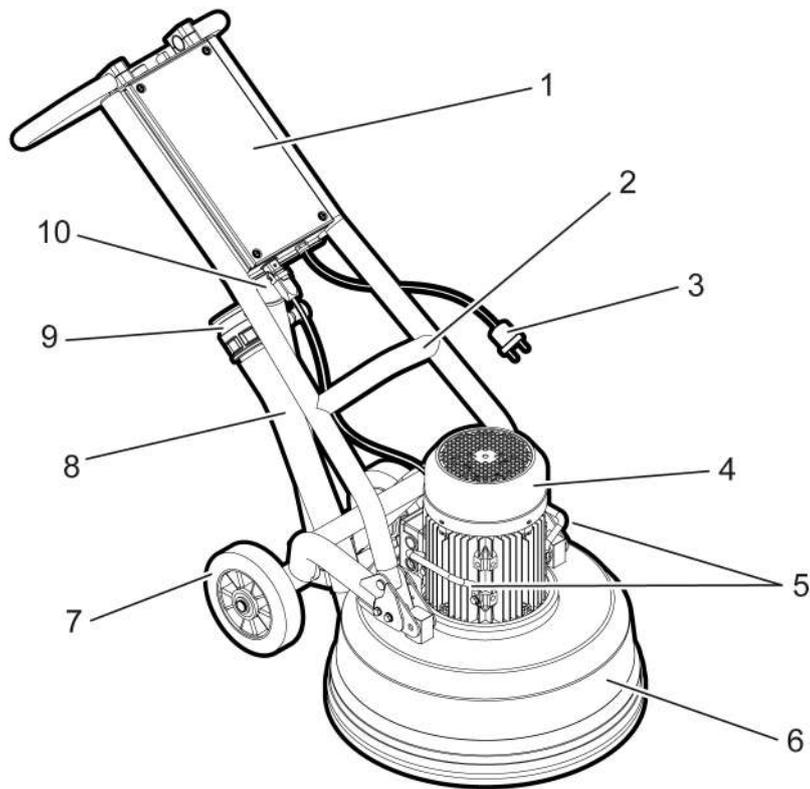
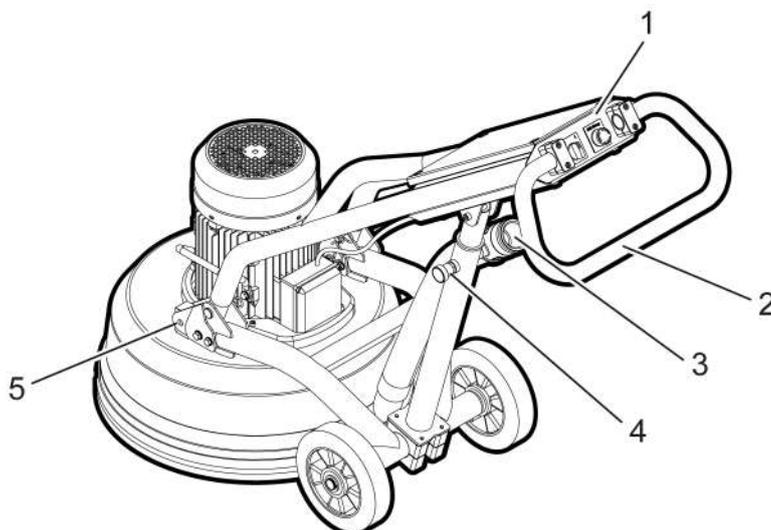

Figure 3-1. The front of the machine
Figure 3-2. The machine's rear
The machine is constructed from a number of main components, see Figure 3-1, page 10 and Figure 3-2, page 11. For each machine model in the series, there are a number of different motor alternatives, see tables in Technical data, page 30.
The machines in the series are equipped with a lifting eye on the chassis and two lifting handles on the grinding head, see Figure 3-1, page 10. The lifting eye is intended for lifting the complete machine. The lifting handles are intended for lifting the grinding head, when it is separated from the chassis, and then only for short, low lifts, e.g. into the boot of a car. The lifting handles are not to be used for lifting the complete machine.
The handle can be placed in a number of different working positions by loosening the locking mechanism for adjusting the handle (see Figure 3-2, page 11) and moving the handle up and down to the desired working height. The angle of the handle (see Figure 3-2, page 11) can also be adjusted to obtain the best ergonomics. The handle can also be placed in the upright position, which must be used when the machine is tipped to enable access under the grinding head, e.g. when changing tools.
- Adjust and lock the handle in the desired position, using the locking mechanism, see Figure 3-2, page 11.
- Adjust the handle to the desired angle to achieve the best ergonomics, see Figure 3-2, page 11.
1. Undo the quick release coupling for the motor cable, see *Figure 3-1, page 10*.
2. Remove the suction hose from the grinding cover or from the vacuum connection, see *Figure 3-1, page 10* and *Figure 3-2, page 11*.
3. Remove the safety pins from the quick release, see *Figure 3-2, page 11*.